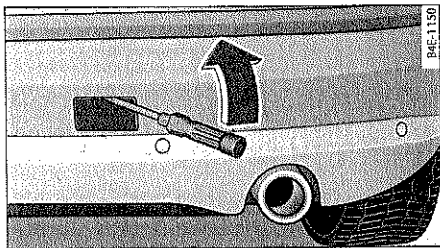

Fig. 301 Rear bumper: cover
- Place the screwdriver against the upper edge of the cover and carefully pry it out ⇒ fig. 301.
rewdriver against the upper edge of the arefully pry it out ⇒ fig. 301.